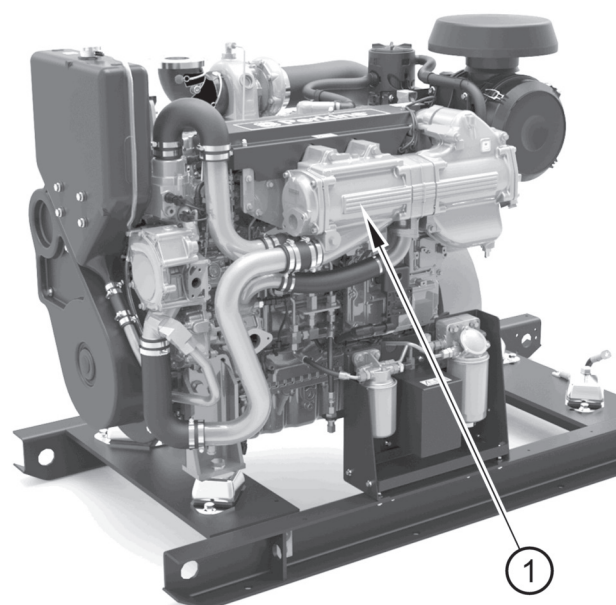

Figure 17
The interval for the maintenance of the tube type heat exchanger/aftercooler (figure 17 item 1) depends on the operating environment of the vessel and on the operating time. The sea water that is circulated through the heat exchanger and the amount of operating time of the vessel affects the following items: